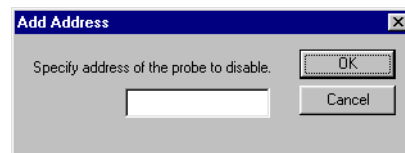

Figure 2-9 The Disable Probes, Add Address dialog
- a. Click on **Add**. The Add Address dialog is displayed (Figure 2-9).